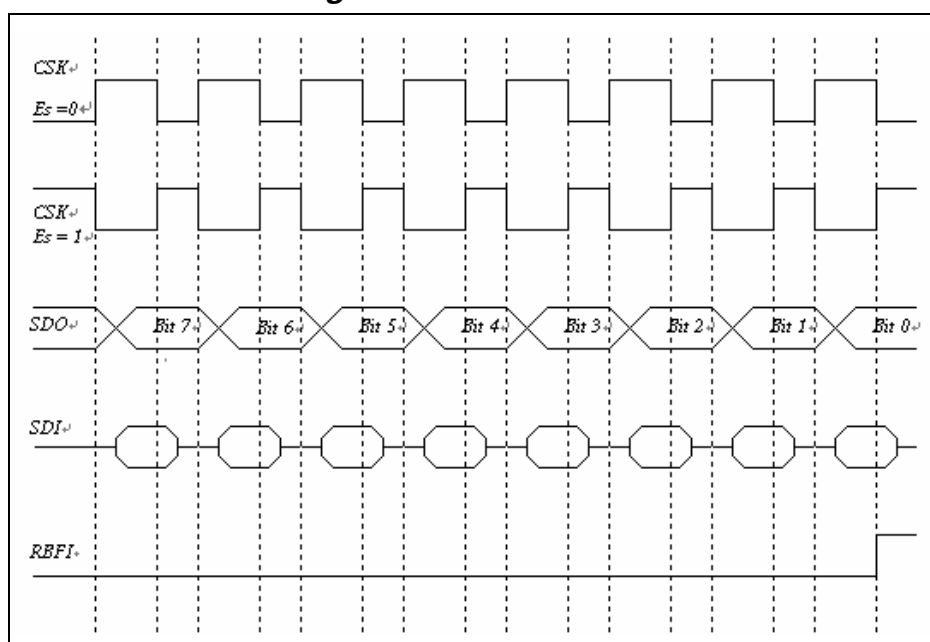
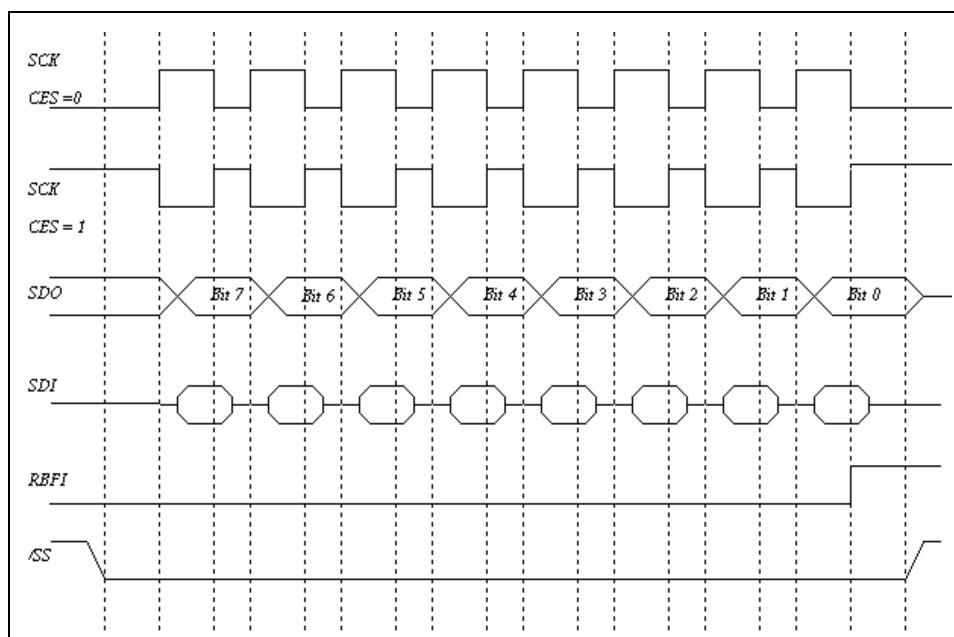

Figure 6-10a SPI Mode with /SS Disabled Timing Diagram
Figure 6-10b SPI Mode with /SS Enabled Timing Diagram
- Timing is shown in Figures 6-10a & 6-10b below.
The SCK edge is selected by programming the bit CES. The waveform shown in Figure 6-10a above, is applicable regardless of whether the eKTF5701 is in Master or Slave mode with /SS disabled. However, the waveform in Figure 6-10b below can only be implemented in Slave mode with /SS enabled.